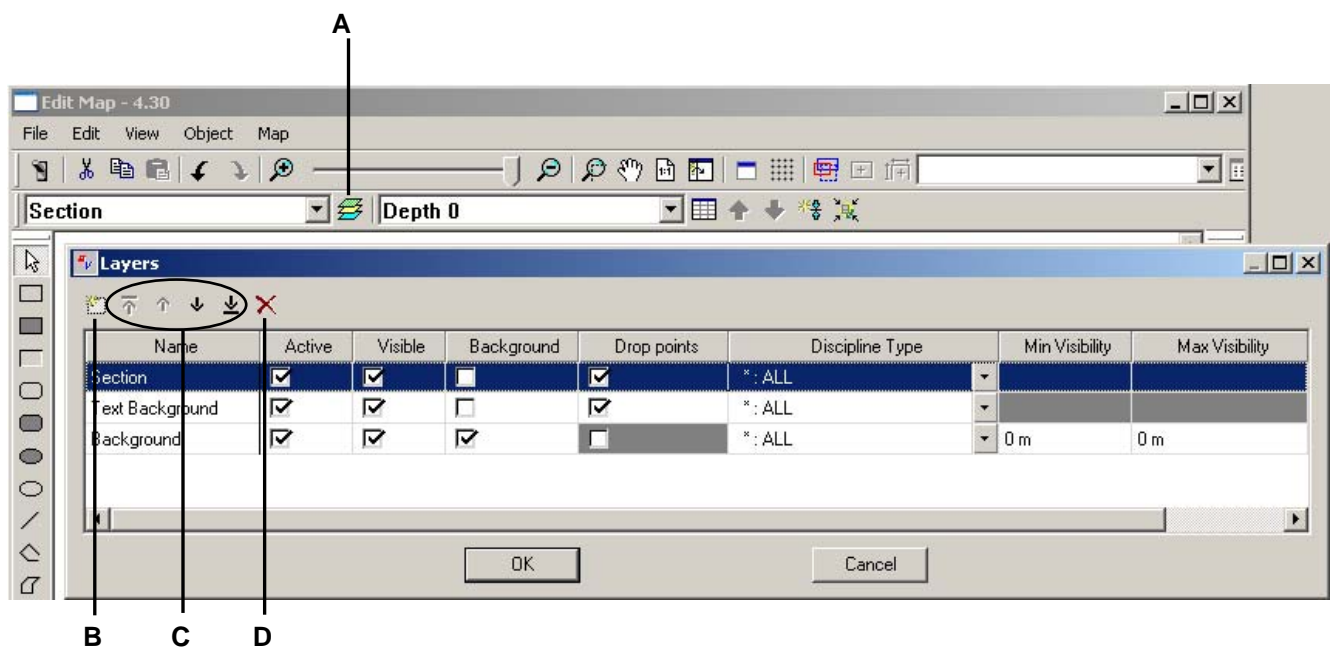

Fig. 5 Create a new layer
1. Select the **Edit Layers** icon  to open the **Layers** window (see Fig. 5)